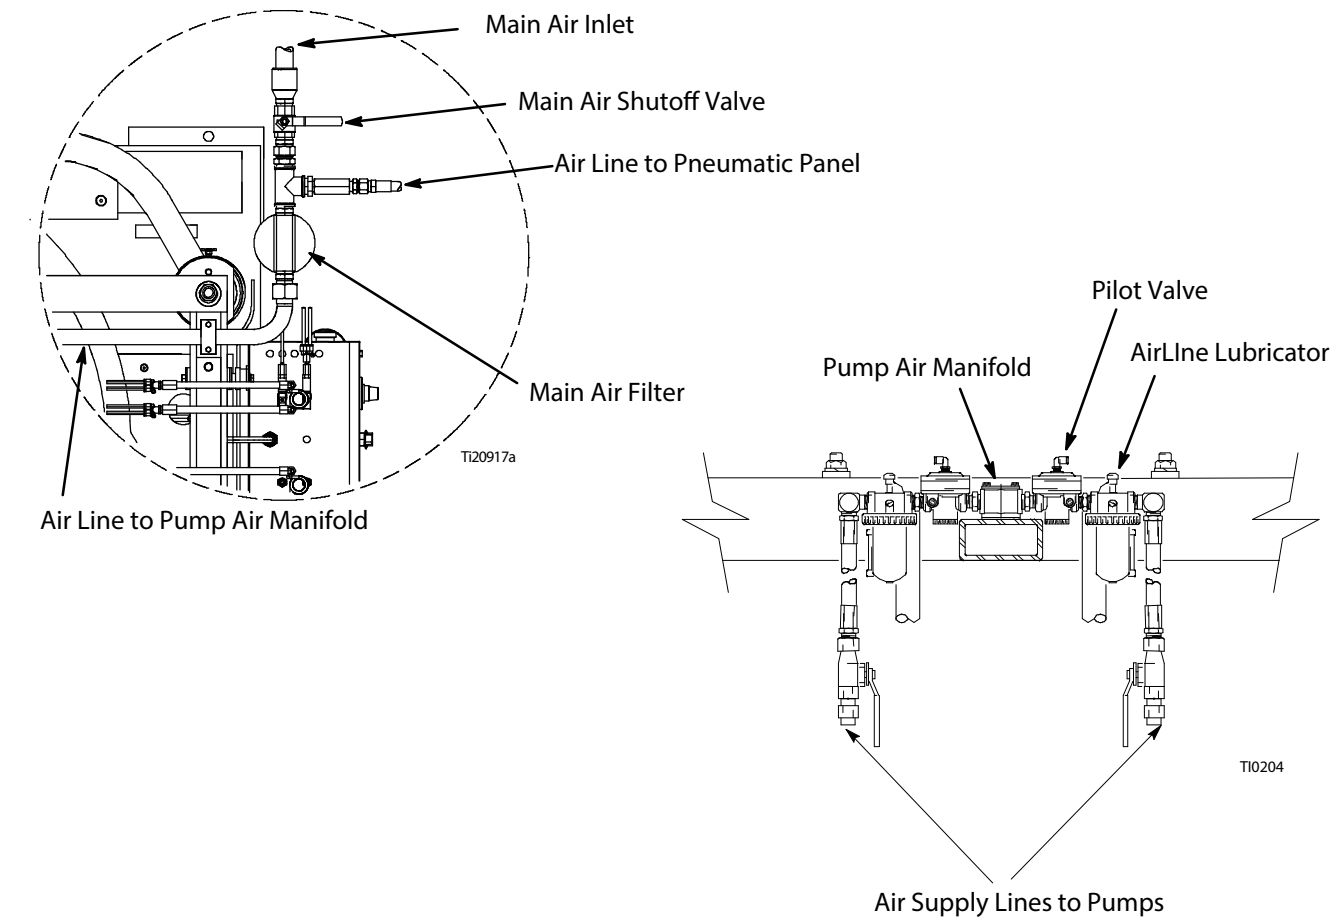

FIG. 10
4. Open the Main Air Shutoff Valve (P), making air pressure available to the unit. See FIG. 10 on page 26.